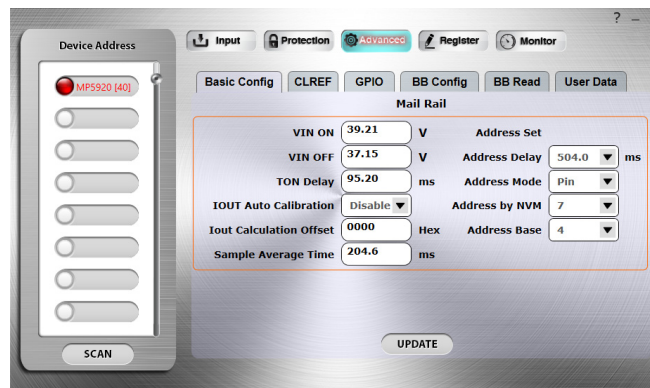

Figure 6: GUI Advanced Page, Basic Configuration Tab
- Basic Configuration: Set the VIN on/off threshold, t_{ON} delay time, sample average time, and address selection (see Figure 6).